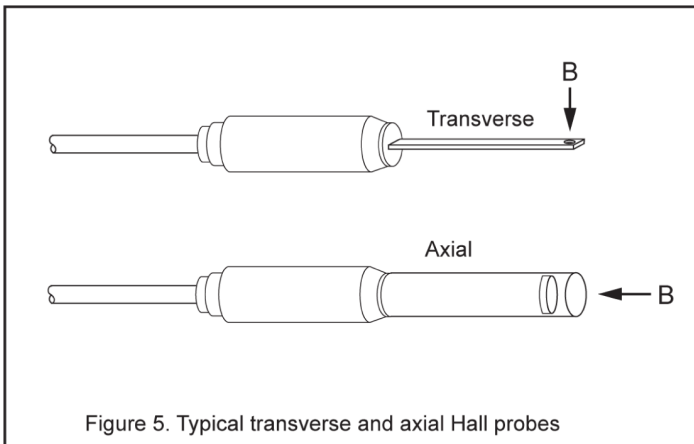

Figure 5. Typical transverse and axial Hall probes
Most Hall probes fall into two categories, (1) transverse and (2) axial, defined by the direction of the flux lines through the probe (Figure 5).